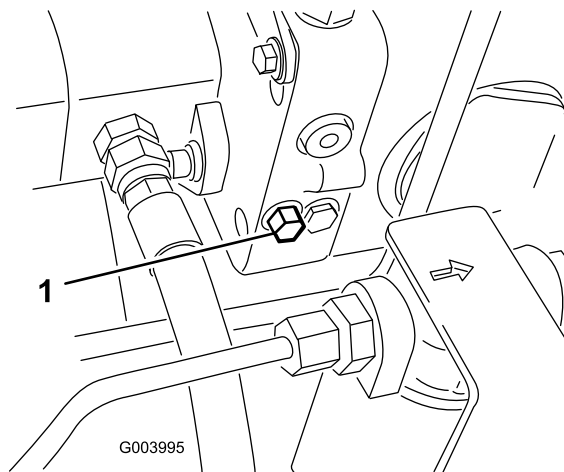

Figure 42
- The bypass valve is located on the left side of the hydrostat (Figure 42). Rotate the bolt 1-1/2 turns to open and allow oil to bypass internally. Because fluid is bypassed, the machine can be moved slowly without damaging the transmission.